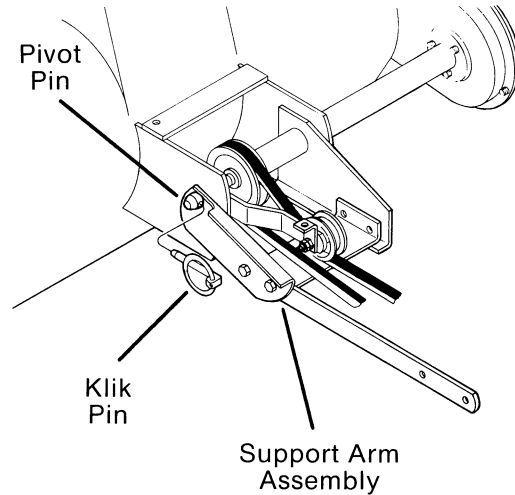

FIG. 2
A. Slide support arm assembly onto pivot pin and secure in place with klik pin as shown in (Fig. 2).